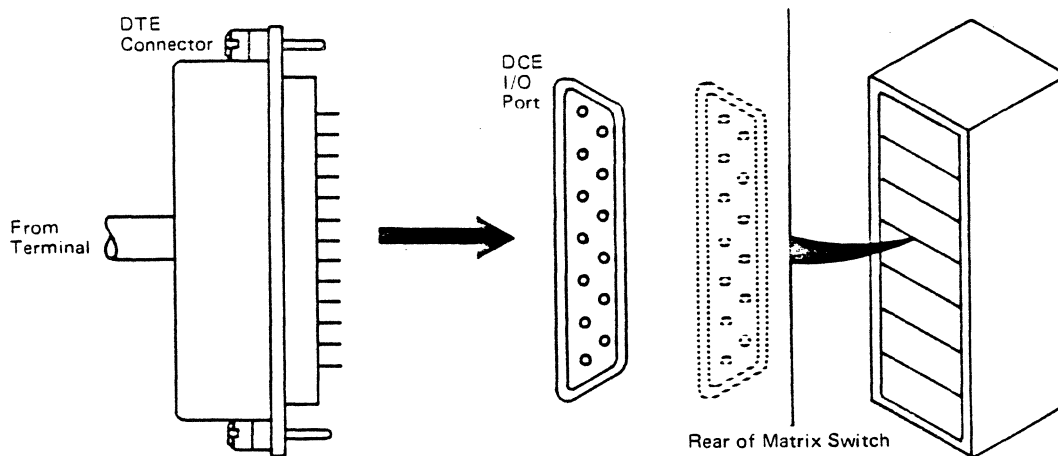

Figure 8-7. DTE Connection to DCE I/O Port on I/O Port Connector Panel
2. Connect the DTE end of the EIA cable to the DCE I/O port on the I/O Port Connector Panel at the rear of the Matrix Switch (Figure 8-7).